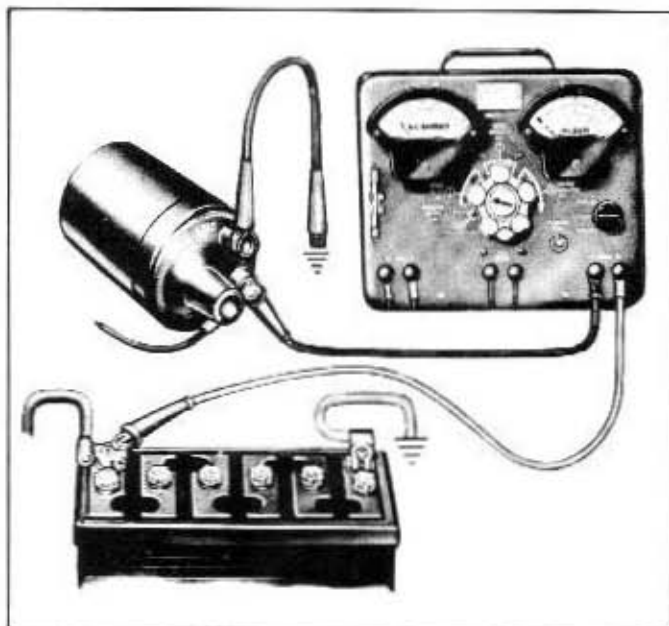

Fig. 10A-47—Primary Circuit Resistance Test—(60C-7740)
2. Connect test leads as shown in figure 10A-47. Connect red voltmeter lead to Positive terminal of battery and black voltmeter lead to battery terminal of coil.